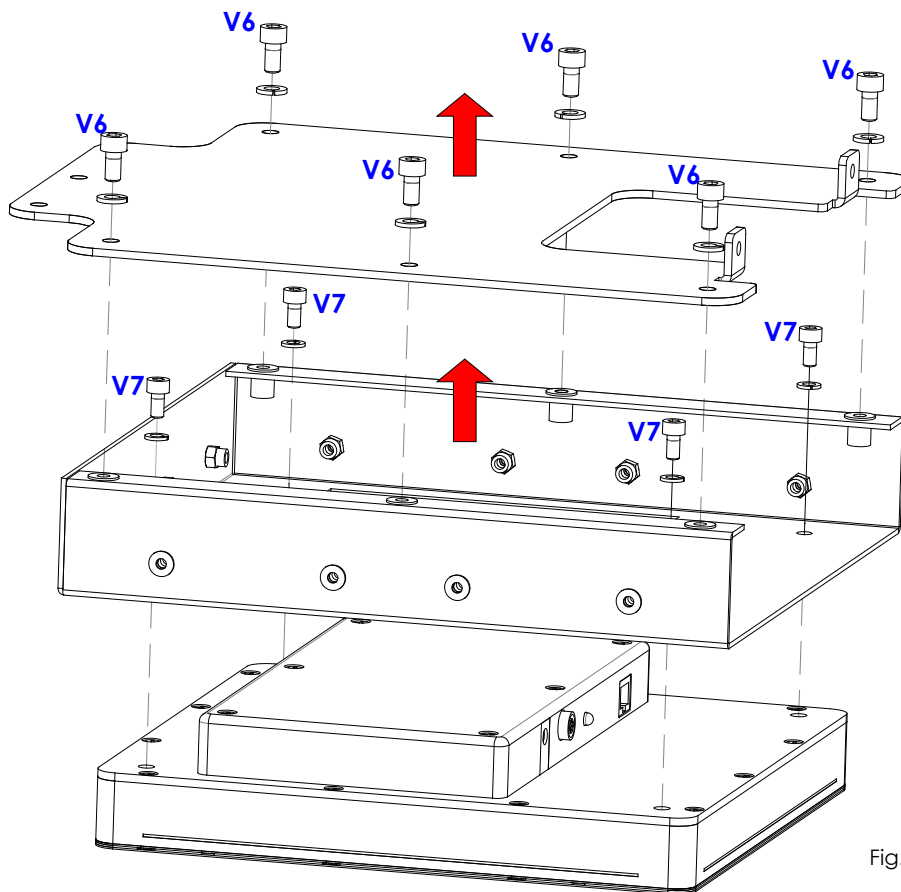

Fig. 7h
- Taking care not to damage any cables, undo the 6 screws (V6), the 4 screws (V7) and remove the FPD from the support plates (Fig.7h).